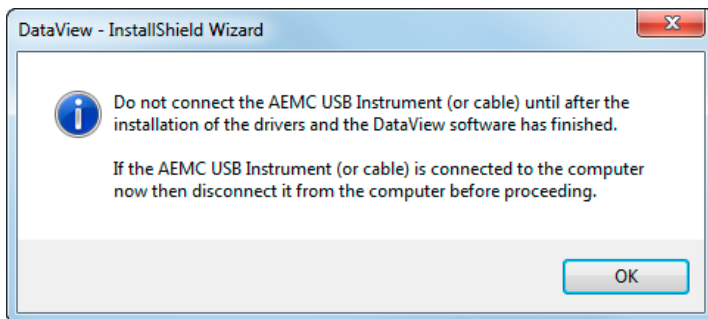

Figure 6-3
10. If the instrument selected for installation requires the use of a USB port, a warning box will appear, similar to Figure 6-3. Click **OK**.